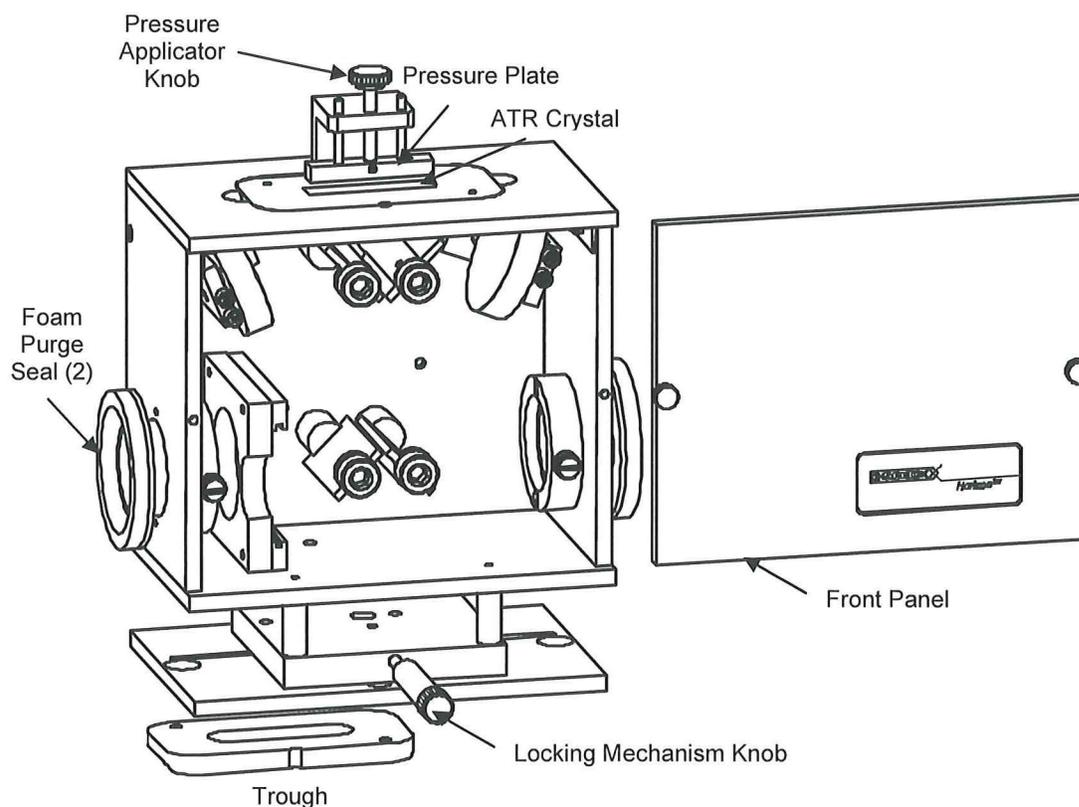

Figure 1 • Horizon™ with the Solid Sampling Plate Installed.
Before installing the Horizon™, familiarize yourself with the accessory and its various components by referring to the photo below (Figure 1).
- Secure the Horizon™ in place by tightening the locking mechanism knob (Figure 1).